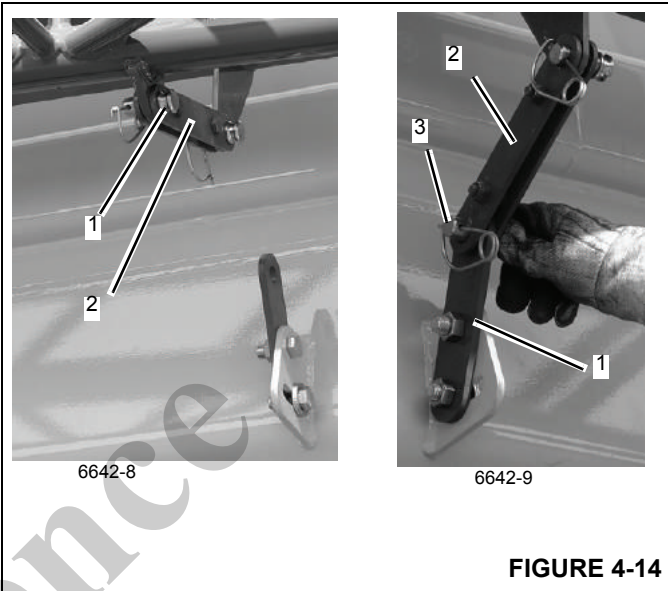

FIGURE 4-14
4. If not using the bi-fold 7m (23 ft) section, remove pin (1, Figure 4-14, photo 6642-8) from the locking bar (2). Move locking bar (2, photo 6642-9) to the base section attachment bar (1) and install pin (3). Secure with retaining pin.